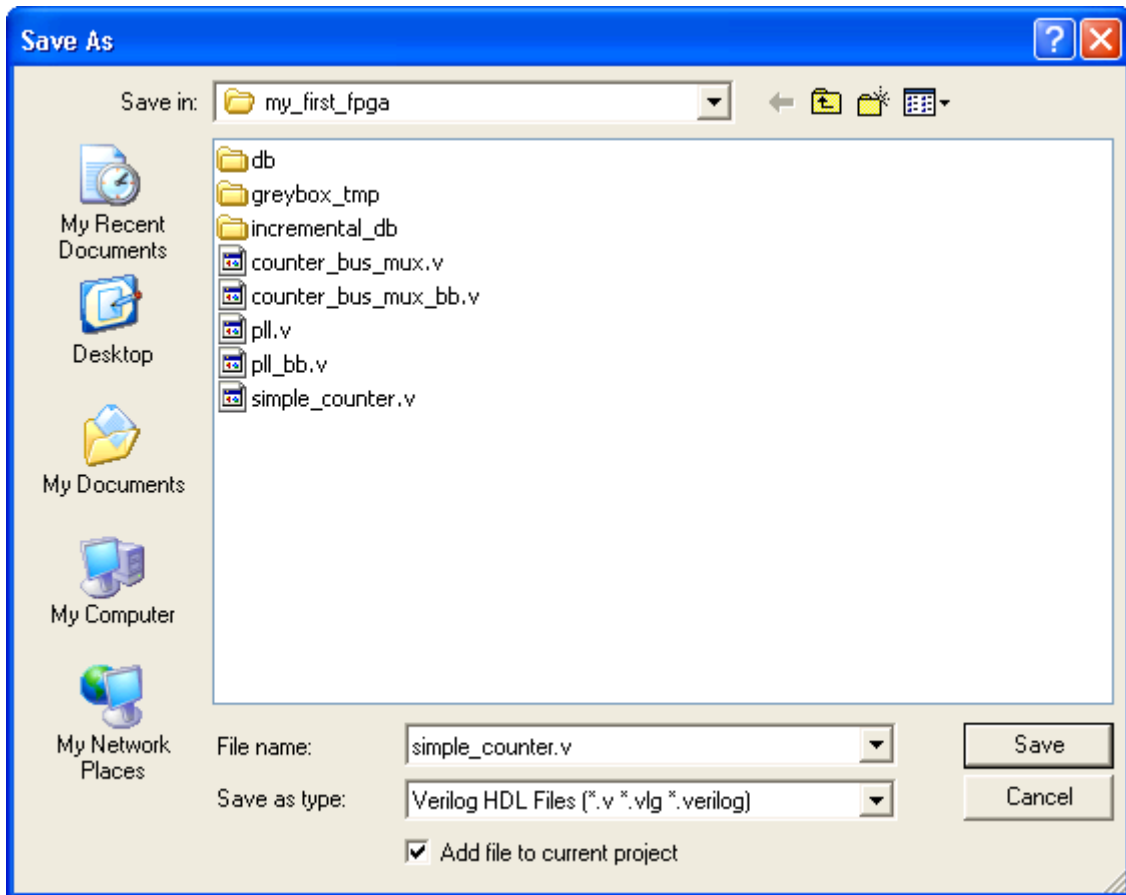

Figure 6-14 Saving the Verilog HDL file
3. Save the newly created file, by selecting **File > Save As** and entering the following information (see **Figure 6-14**).